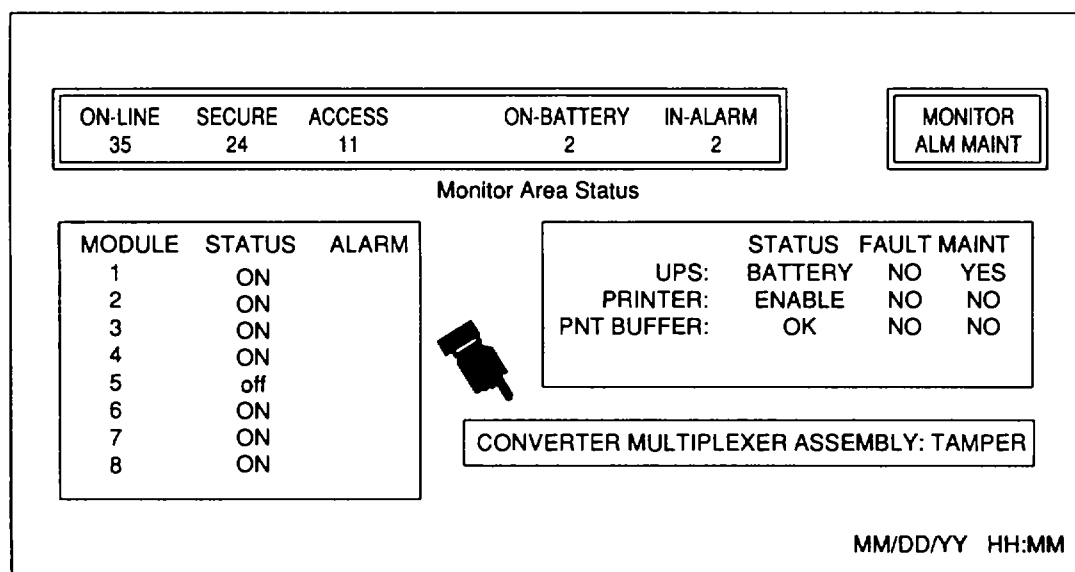

Figure 1-6. Monitor Area Status Screen (Typical).
1.15.3 Monitor Area Status Screen. The Monitor Area Status Screen (figure 1-6) displays information about the status of the AMG and is divided into two areas. It indicates the status of the eight modules and the alarm condition of the modules. It indicates the status of the tamper switches of the CMA and power status of the UPS. It also indicates the status of the printer and print buffer. The Monitor Area Status Screen is selected to acknowledge alarms or maintenance actions that occur in the MONITOR section of the system summary. After selecting the Monitor Area Status Screen, the only action required to acknowledge status changes is pressing <F1> and <F2> to reset cleared alarms.